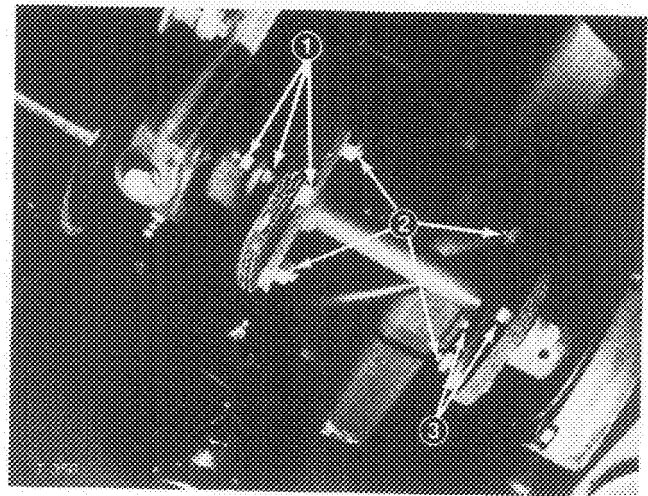

Figure 59
2. Remove two capscrews, lockwashers, flatwashers, rubber washers and nuts securing drive coupling assembly to engine pulley and two capscrews, flatwashers and locknuts securing coupler to transmission hub (Fig. 59). Slide assembly out after capscrews are removed.
3. If drive coupling assembly must be disassembled, separate rubber couplings from power shaft by removing four nuts, flatwashers and capscrews (Fig. 59).
1. Assemble rubber couplings and power shaft with capscrews. Flatwashers and nut (Fig. 59).
2. Position drive coupling assembly between engine and transmission hub, and align the holes. Secure drive coupling between hubs with capscrews, flatwashers, rubber washers and nuts on engine end; capscrews, flatwashers and nuts on pump end (Fig. 59). Tighten the capscrews alternately and evenly to prevent distortion of the rubber coupling.